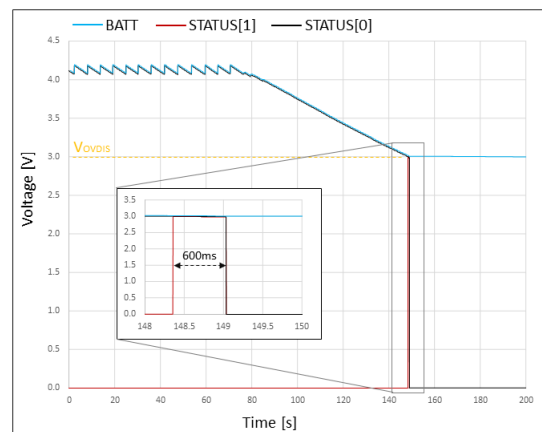

Figure 5: LDOs and external DCDC BUCK converter disabled around 600 ms after BATT reaches Vovdis
- **BATT**: Voltage decreases as the system consumes the power accumulated in the storage element. The voltage remains stable after crossing Vovdis (see Figure 5).
- **STATUS[0]**: De-asserted when the LDOs are no longer available as the storage element is running out of energy. This happens 600 ms after STATUS[1] assertion (see Figure 5).
- **STATUS[1]**: Asserted for 600ms when the storage element voltage (BATT) falls below Vovdis (see Figure 5).